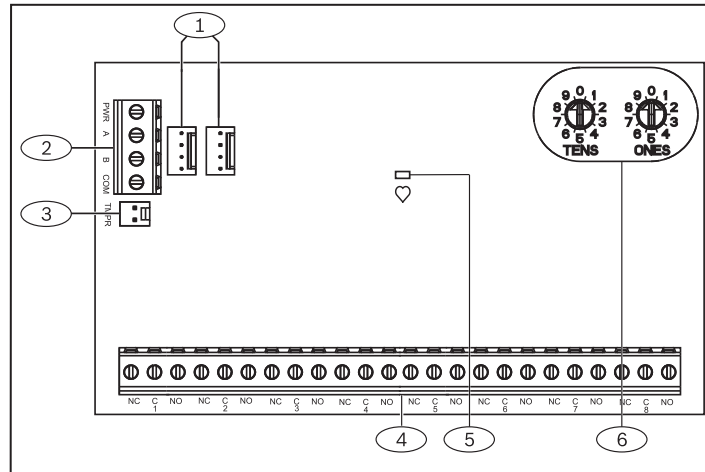
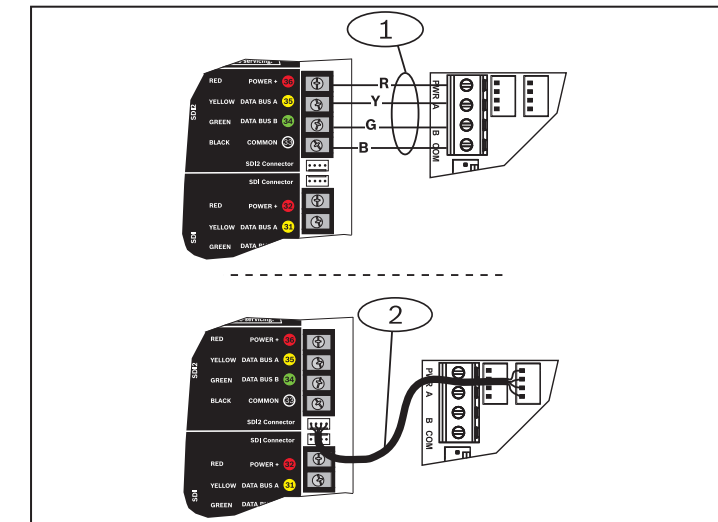

Figure 1.1: Board overview
Figure 3.2: Using terminal strip or interconnect cable wiring (D9412GV4 shown)
2. Plug the tamper switch wire onto the module's tamper switch connector. Refer to Figure 1.1.
When you wire the module to a control panel, you can use either the module's terminal strip labeled with PWR, A, B, and COM, or the module's interconnect wiring connectors (wire included). Interconnect wiring parallels the PWR, A, B, and COM terminals on the terminal strip. Figure 1.1 indicates the location of both the terminal strip and the interconnect connectors on the module. Refer to Figures 3.2, 3.3, and 3.4.